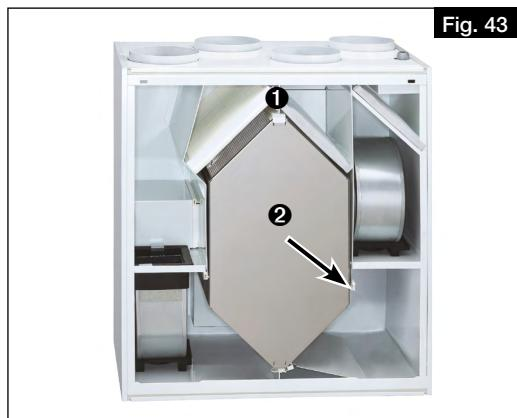

Fig. 43
3. Remove terminal strip ① at top of heat exchanger (see Fig. 43).
4. Carefully remove the heat exchanger ② from the unit (see Fig. 43).